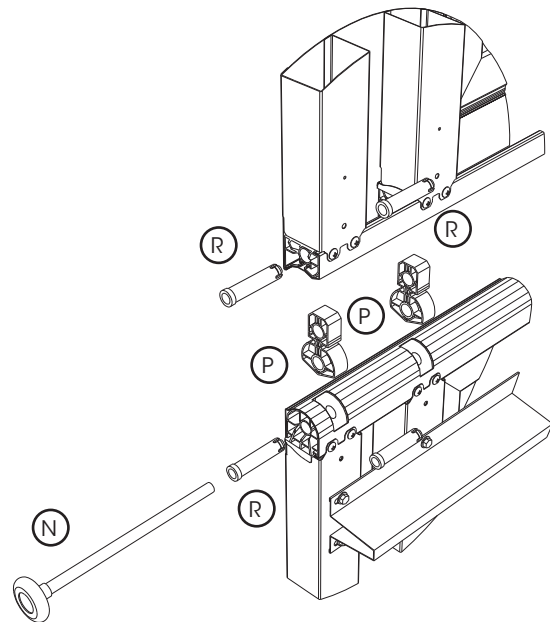

Fig: 2.2.4
- a) Insert the polyethylene hinge links (Ⓟ) into the recesses of the top of the panel and fix into place using the white hinge pins (Ⓡ). Fig 2.2.4.